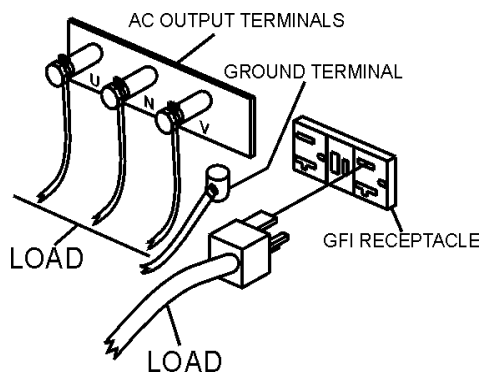

Figure 17. UNV Terminal Lugs (Load)
2. Once it is determined if commercial power is required, connect the load to the UNV terminals as shown in Figure 17. These terminals can be found on the output terminal panel, see page 30 Figure 10. To gain access to the output terminals lift the UNV cover. Make sure to tighten terminal nuts securely to prevent load wires from slipping out.